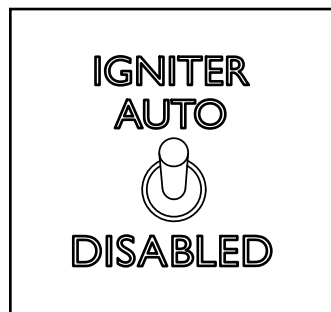
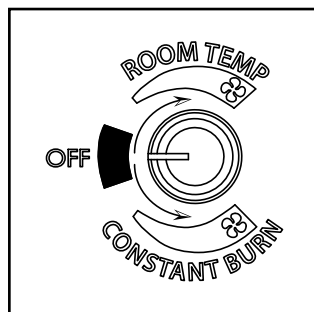

Figure 4.4
Figure 4.5
4. Flip toggle switch to desired mode "Auto or Disabled". Figure 4.4. Set feed limit knob to desired setting and turn mode dial to "Room Temp" or "Constant burn" Figure 4.5. **Note:** Feed rate of #4 is a good starting point. Adjustments may need to be made depending on fuel quality and/or heat output desired.